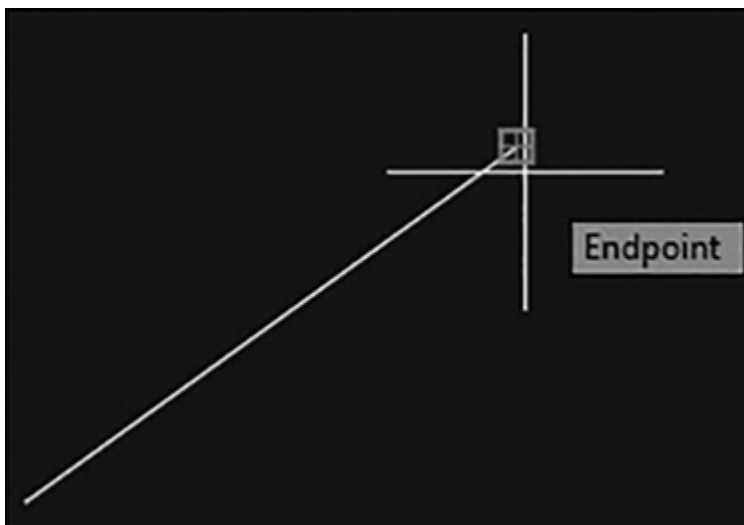

Figure 2-13
- 3 Move the crosshairs close to the start of the first line and let it sit there for a moment. A square will appear at the end of the line along with a tooltip that says *Endpoint* (see Figure 2-13).